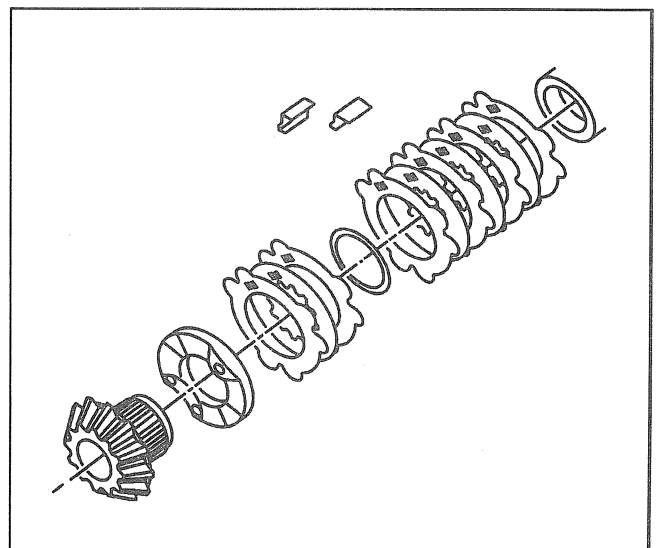
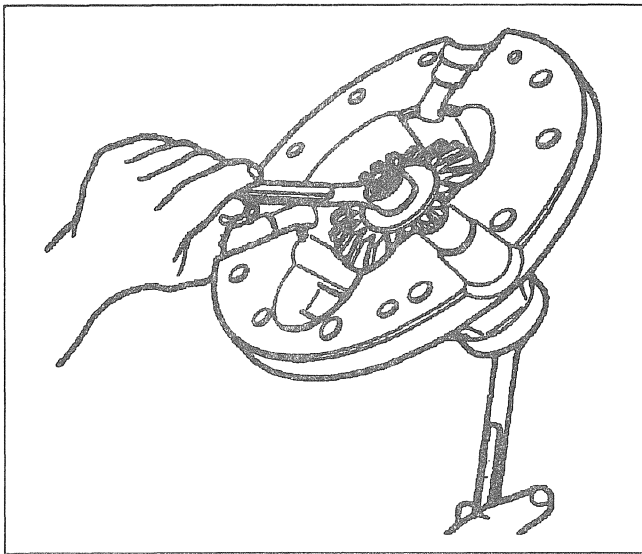

Figure 12—Cam Unit Components
Figure 13—Clamping the Cam Unit in Place
1. Cam plate (33) to the side cam gear (40).
2. Wave washer (15).
- Alternate the plates and position the wave washer as shown in Figure 12.
4. Thrust sleeve (35).
5. Guide clips (34) to the plates.
- A. If the side gear or thrust sleeve has been replaced, measure and record the overall length of the gear to the back of the thrust sleeve (35) including the side gear thrust washer (36).
1. Install the cam unit and side gear thrust washer (36) to the right case half.
2. Clamp the cam unit in place using a set of washers, nut, and a bolt long enough to hold the cam unit in place (Figure 13).
- Alternate the plates as shown in Figure 12.
2. Assemble the guide clips (47) to the plates.
3. Install the side gear thrust washer (45), clutch plate assembly (44), and left side gear to the differential.
4. Clamp the side gear in place using a set of washers, a nut, and a bolt long enough to hold the side gear in place (Figure 13).